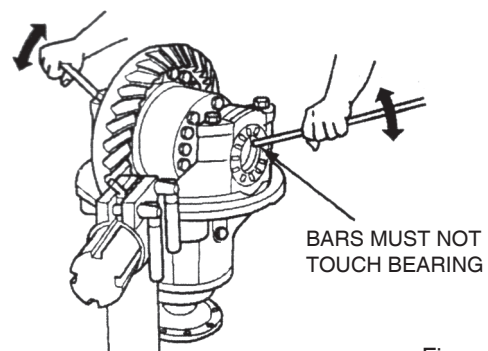

Figure 5.37
- A. Insert two pry bars between the bearing adjusting rings and the ends of the main differential case. The pry bars must not touch the main differential case bearings. Figure 5.37.